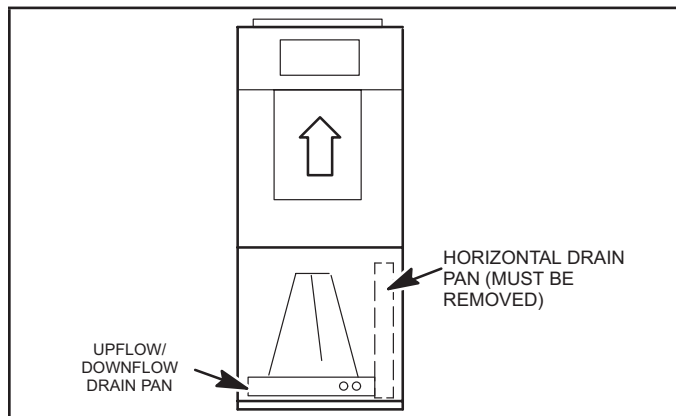

FIGURE 1. Upflow Configuration
- 2 - After removing horizontal drain pan, place the unit in desired location. Set unit so that it is level. Connect return and supply air plenums as required using sheet metal screws as illustrated in Figure 1.